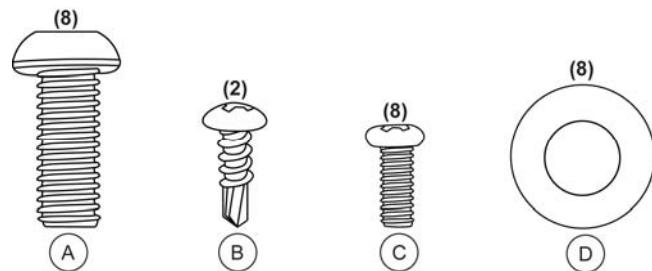

Figure 1
- (1) Plastic bag containing:
- (2) Covers for Display Support (Front & Back)
- Hardware for assembly (see Figure 1)
6. Fasten the handrail to the platform using the (8) M8 1.25 x ¾ screws (A), (8) M8 washers (D) and the included 5mm Allen wrench (see Figure 1).
14. Align the four mounting holes on the back of the display assembly with the four mounting holes in the display support. Fasten the display assembly onto the metal display support. Use the (4) Phillips pan head #5 x 3/8 screws (C) (see Figure 1).
15. Place the pivot bracket screw covers over the pivot screws. Fasten the covers to the back of the display assembly using the (4) Phillips pan head #5 x 3/8 screws (C) (see Figure 1).
16. Attach the adapter holder to the left side of the handrail using the (2) #8 x 1/2 sheet metal screws (B) (see Figure 1).
- Hardware for assembly (see Figure 1 on Page 10)
7. Align the four mounting holes on the back of the display assembly with the four mounting holes in the display support, and fasten the display assembly onto the metal display support using the (4) Phillips pan head #5 x 3/8 screws (C) (see Figures 1 and 9).
8. Place the pivot bracket screw covers over the pivot screws, and fasten the covers to the back of the display assembly using the (4) Phillips pan head #5 x 3/8 screws (C) (See Figures 1 and 9).
9. Attach the adapter holder to the left side of the handrail using the (2) #8 x ½ sheet metal screws (B) (see Figure 1).